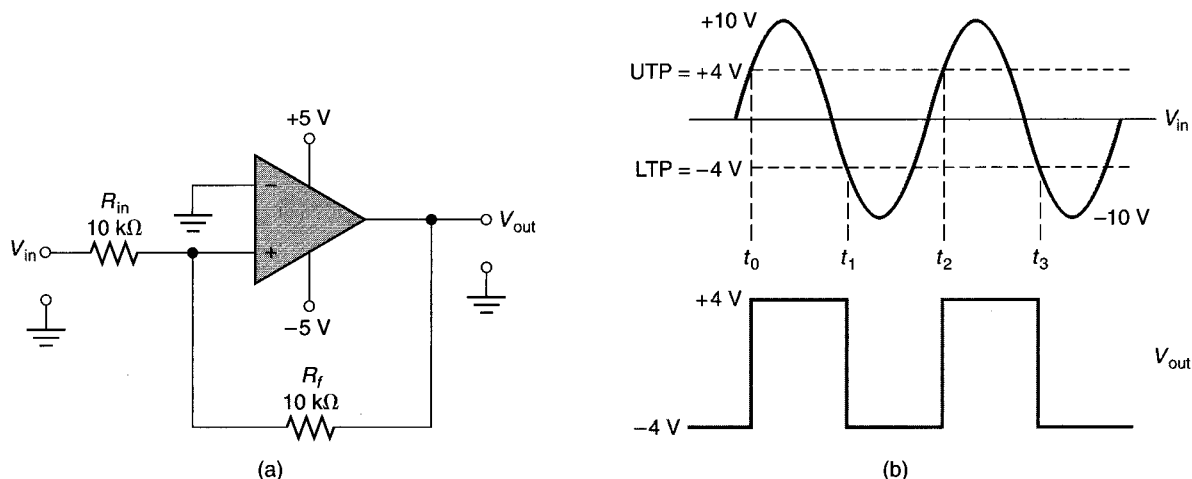

FIGURE 19.23 Noninverting Schmitt trigger operation.
5. Explain the operation of the noninverting Schmitt trigger in Figure 19.23.